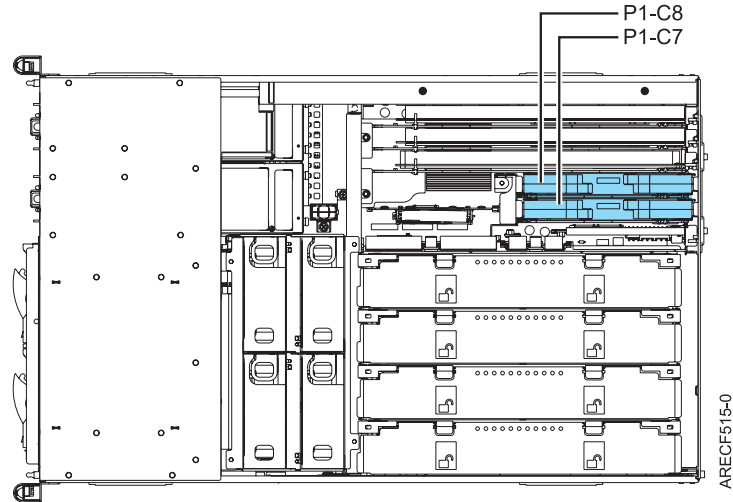

Figure 6. Top view of slots P1-C7 and P1-C8 in model 8204-E8A or 9409-M50
- For model 8204-E8A or 9409-M50, if there is only one processor card in the system, choose slot P1-C8 as shown in Figure 6 on page 17. If two processor cards are installed, choose slot P1-C7 for the first GX adapter.